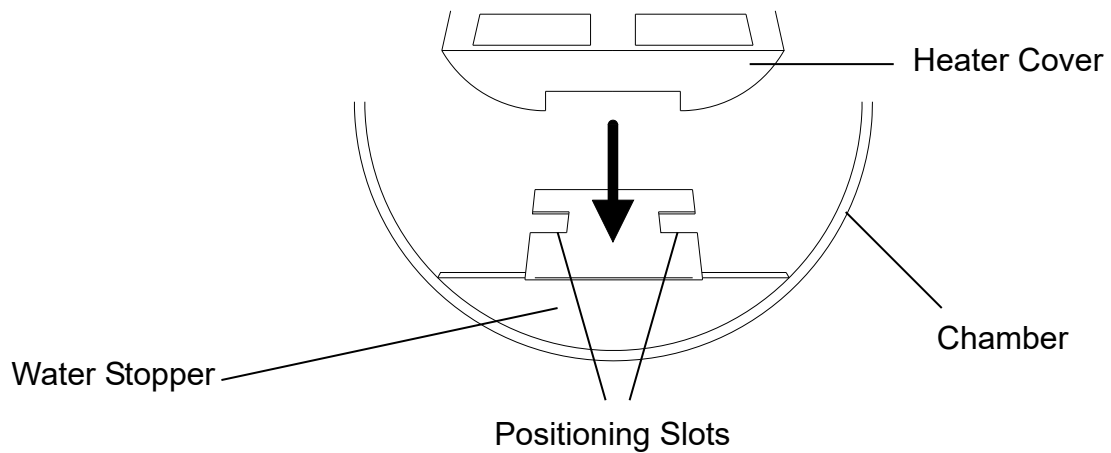

Figure 4 – Heater Cover
- B. Install the heater cover to the chamber as Figure 4. (standard accessory)